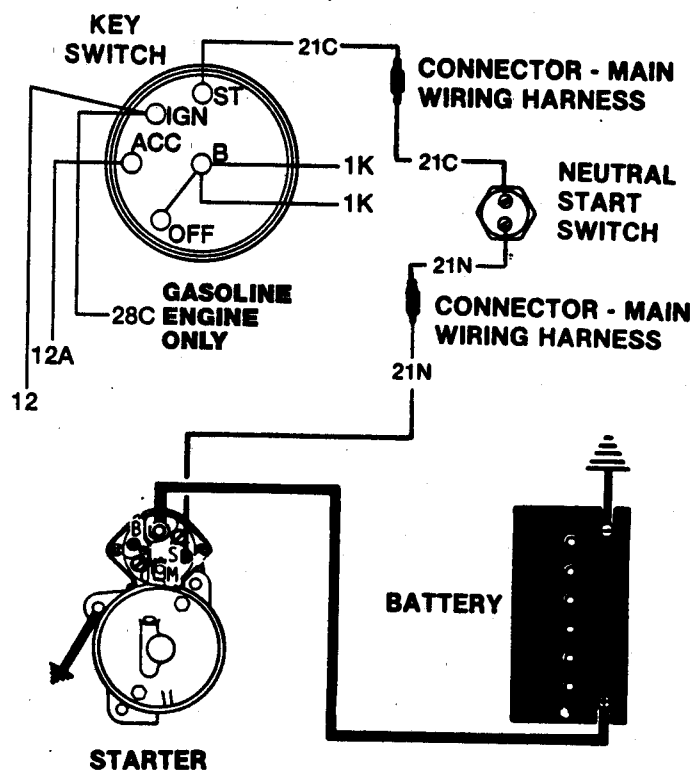

Figure 3. Starter Circuit
2. See Figure 3. Connect a jumper cable to the starter solenoid B and S terminals.